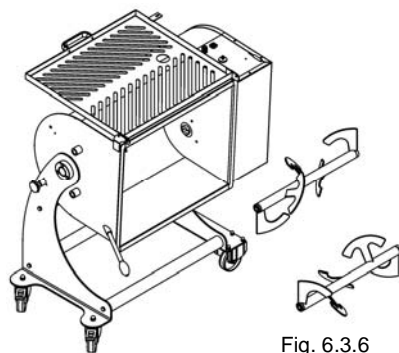

Fig. 6.3.6
- Open the grille "4" Fig. 6.3.6 and proceed with removing the mixing blades.